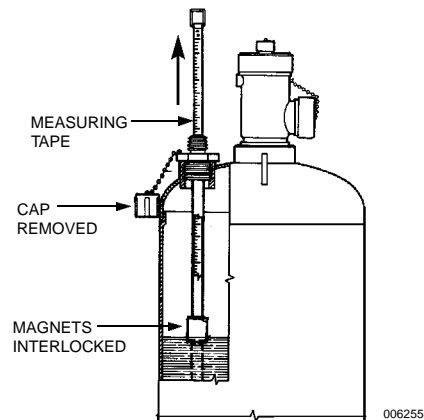

Figure 48 - Liquid Level Measuring Device
2. Lift the measuring tape to the end (or approximately 3 in. above the expected level). Slowly lower the tape until a magnetic interlock is felt (see Figure 48).